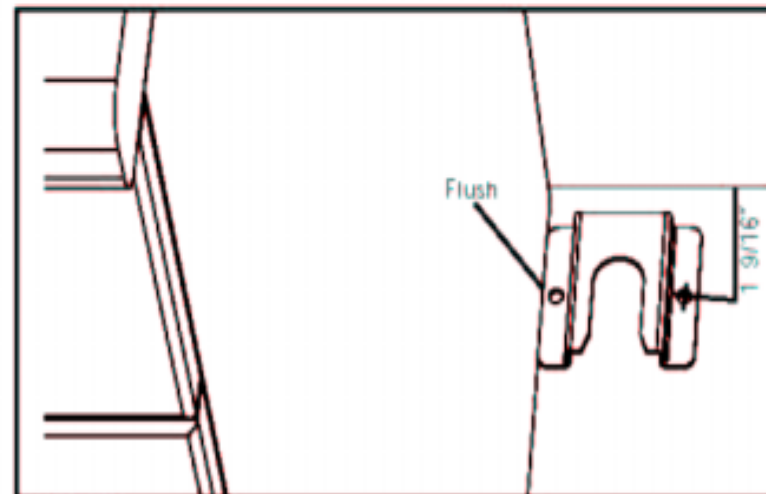

Figure 7
2. Measure to locate bracket position as shown in Figure 7. Secure bracket with 2 screws.
To inspect, turn the burner on. See Figure 7 for appropriate flame characteristics. To view the bake burner, the oven bottom cover must be removed; remove two rear thumb screws, slide forward and out.